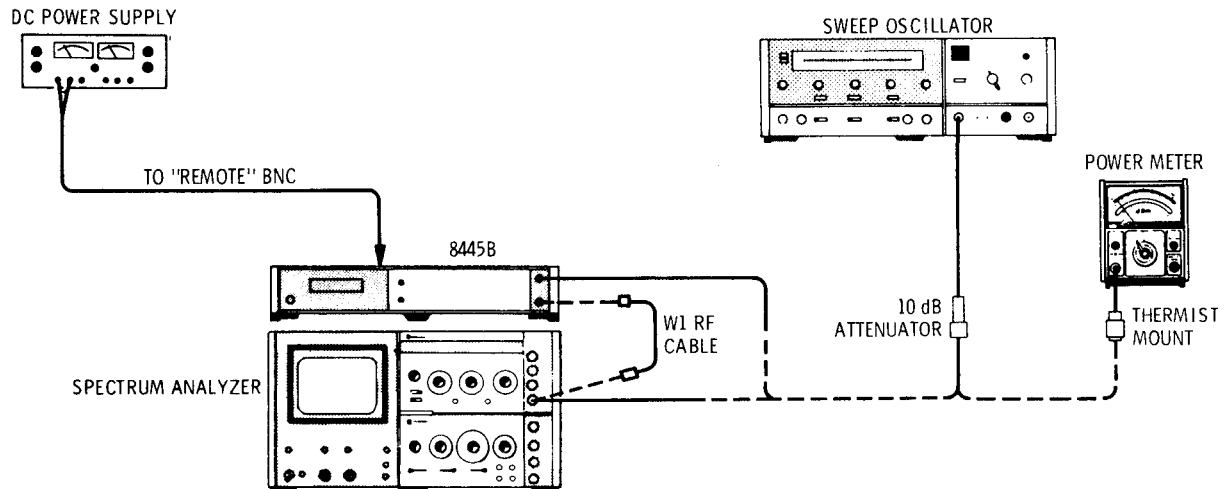

Figure 4-3. Insertion Loss Test Setup, 1.8 - 18 GHz
1. Connect test setup as indicated in Figure 4-3 and make the following control settings.